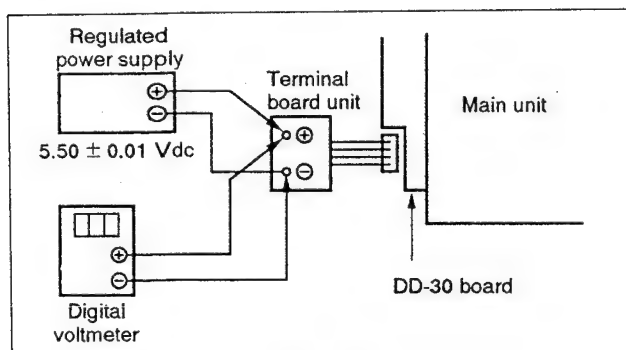

Fig. 6-4.
- 1) Connect a regulated power supply and digital voltmeter as shown in Fig. 6-4.
- 2) Connect Pins ⑧ (UN (TEST)) and ③ (PB RF GND) of CN204 on the VS-72 board with a jumper wire. (TEST mode)